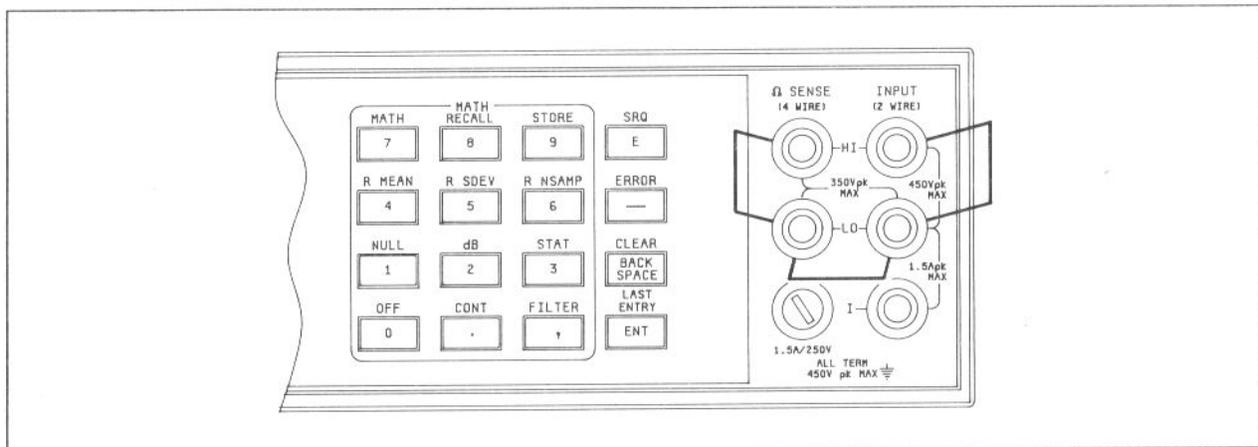

Figure 4-17. 4-Wire Ohms Operational Verification Test Connections
2. Short the front panel input terminals of the HP 3457A as shown in Figure 4-17.